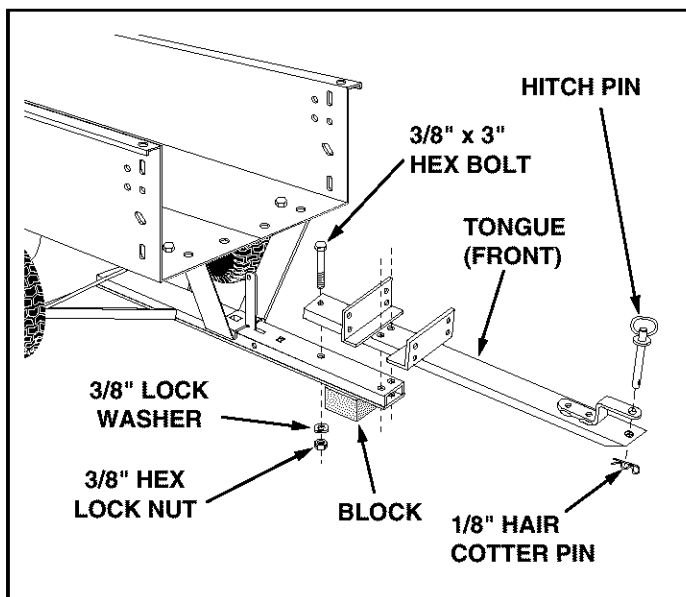

FIGURE 8
- Assemble the front tongue on top of the rear tongue using three 3/8" x 3" hex bolts, 3/8" lock washers and 3/8" hex lock nuts. See figure 8.
- Assemble the hitch pin to the hitch bracket and tongue, securing it with the 1/8" hair cotter pin. See figure 8.